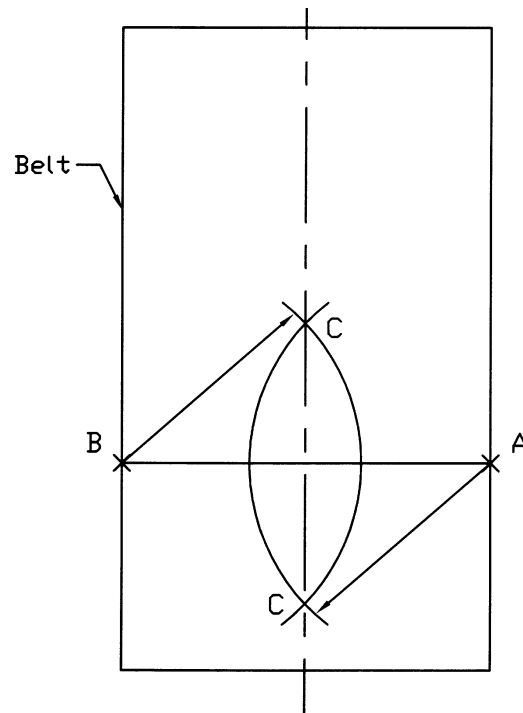

Fig. 2B
3. The intersections of the arcs, points C, are points on the centerline of the belt (Fig. 2B).